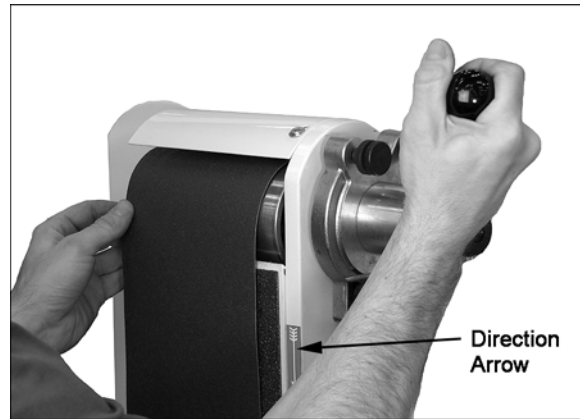

Figure 17
4. Most brands of replacement abrasives are directional, and must be installed in the proper direction. Directional belts are so indicated on the backing material by arrows. The direction of the abrasive should match that of the arrow on the platen assembly (Figure 17).
5. Once the belt direction has been determined, pull the belt tensioning handle toward you with one hand, while using the other hand to slide the belt onto both drums and over the platen pad. See Figure 17.